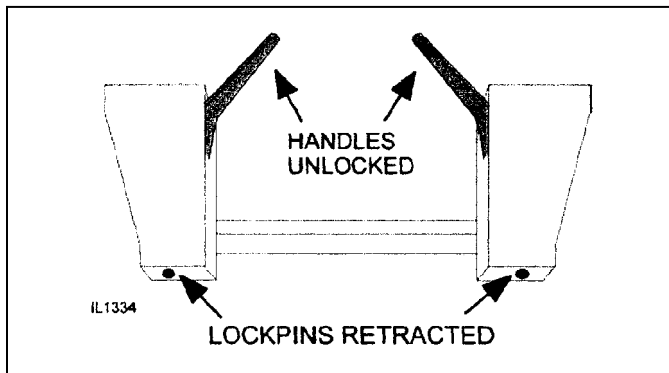

Figure 2. Quick Attach Coupler Handles - Unlocked
2. The quick attach coupler handles should be in the unlocked position with lock pins retracted, Figure 2.